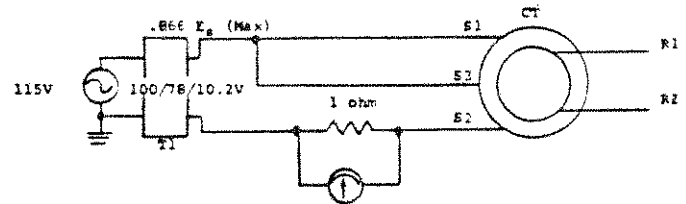

Figure 7-16. Input Current Test (CT)
- a. Set up equipment as shown in figure 7-16.